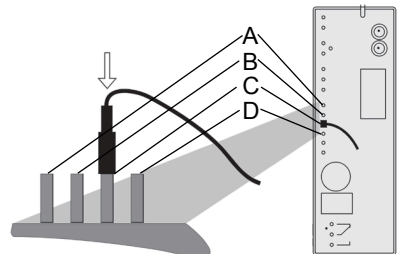

Fig. 3: Time control
3. Select the desired time interval for the time-controlled automatic backwashing process on the control electronics of the automatic system. To do this, attach the cable lug of the short cable strand to the pin with the inscription corresponding to the desired time interval (see Figure 3).